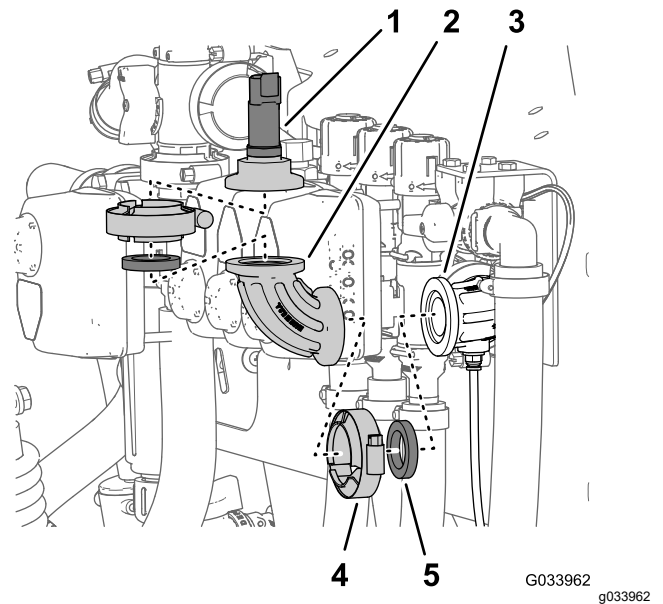

Figure 10
2. Remove the flange clamp that secures the pressure transducer to the 90° fitting, and remove the transducer, gasket and flange clamp (Figure 10).
3. Remove the flange clamp that secures 90° fitting to the 90° fitting with a connector for the sense tube, and remove the 90° fitting, gasket and flange clamp (Figure 10)